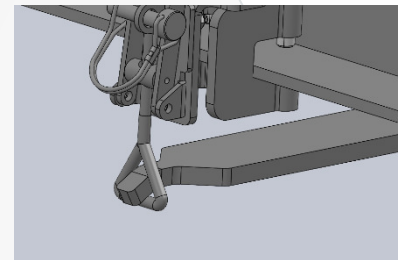

Figure 3: Lever Arm-Eye Bolt Connection
- a. Fitment test the secondary retention device by lifting the Lever Arm and passing the end through the eye bolt of the latch, as shown in Fig. 3. You may have to exert some upward force to the end of the Arm to get it level with the eye, this is normal and a design feature.